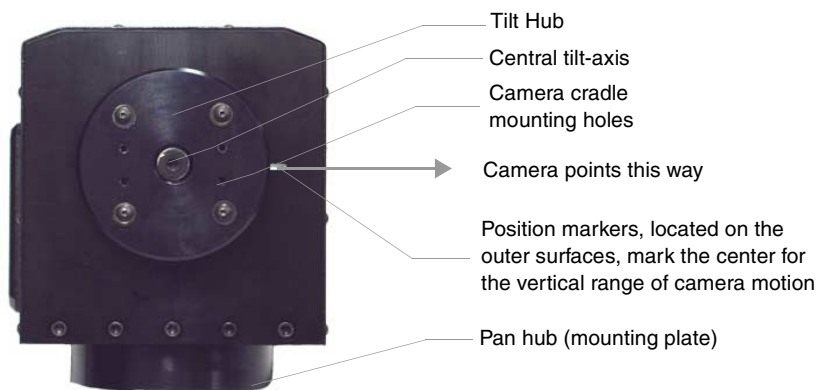

FIG. 11 Center position for the camera cradle attachment
2. Locate the external white position markers located on the pan and tilt axis. The position markers must align with the pan and tilt axis in order to be considered in the home position. FIG. 11 shows the camera cradle attachment in the center position.